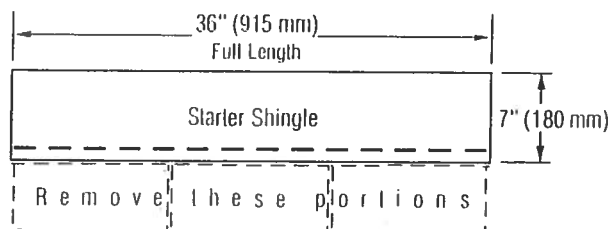

Figure 15-7: Make starter shingles by removing the lower 5" tabs.
1. Use CertainTeed Starter (pre-cut 10" x 36"), or use standard three-tab self-sealing shingles with the lower 5" tab portions removed to provide starter shingles that are 7" in height (Figure 15-7).